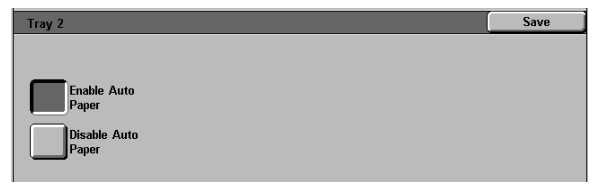

Figure 11: Sample Tray detail screen
- 4 To enable or disable Auto Tray Switching, use the up and down arrows to highlight the desired paper tray, and touch the **Change Settings** button to display the tray detail screen, as illustrated in Figure 11.